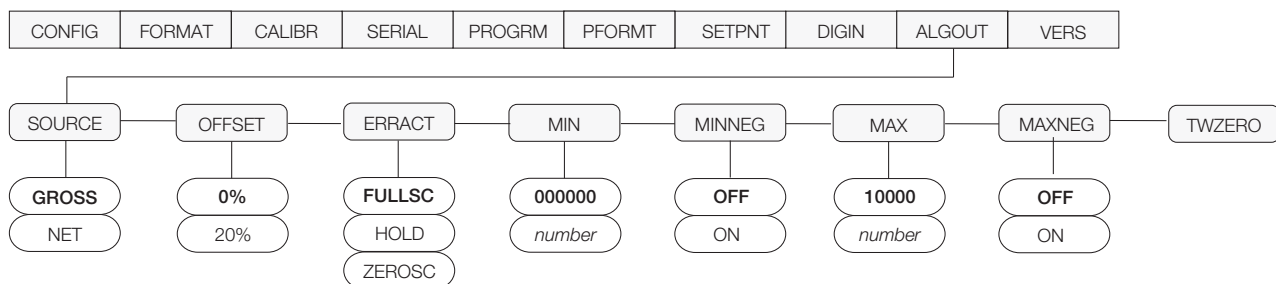

Figure 1-5. Analog Output Menu
1. Enter setup mode and go to the ALGOUT menu (see Figure 1-5).